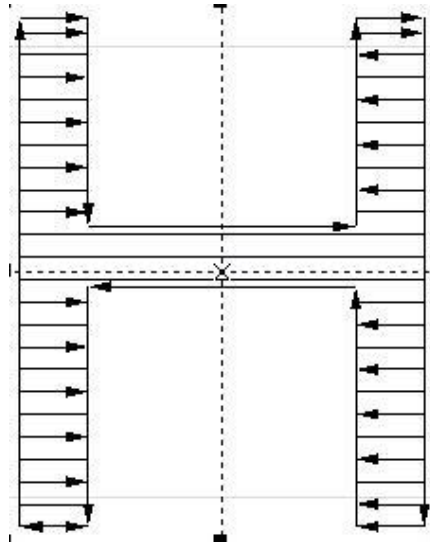

Fig.3-9 Optimization Gong type hatch Optimized bow shaped filling
**Optimization Gong type hatch:** similar with Gong, will jump in null place. As shown in Figure 3-9:
**Optimized bow shaped filling:** Be similar to bow shaped filling, It will still skip to fill in the blank space of the object. As shown in Figure 3-9: